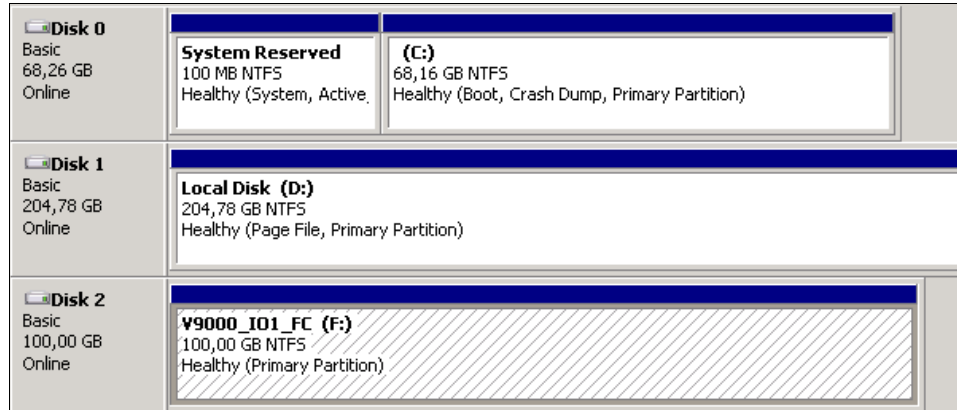

Figure 7-20 Server has access to a single IBM FlashSystem V9000 volume
1. The Microsoft Windows 2008 Server has access to a single 100 GB volume from IBM FlashSystem V9000. View this information in the Disk Management window of the server OS (Figure 7-20).